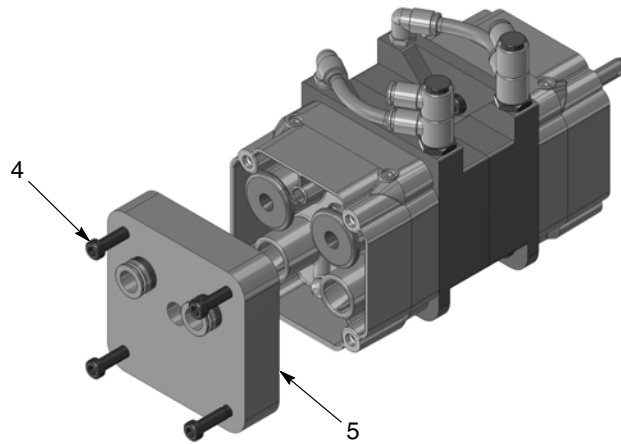

Figure 7-5 Removing Bottom Siphon Block Plate
2. See Figure 7-5. Remove the four cap screws (4) from the bottom of the siphon block (5).
7. See Figure 7-5. Using a 4-mm Allen wrench, insert four cap screws (4) into the bottom siphon block (5) to connect the bottom block to the pinch valve blocks and middle blocks.